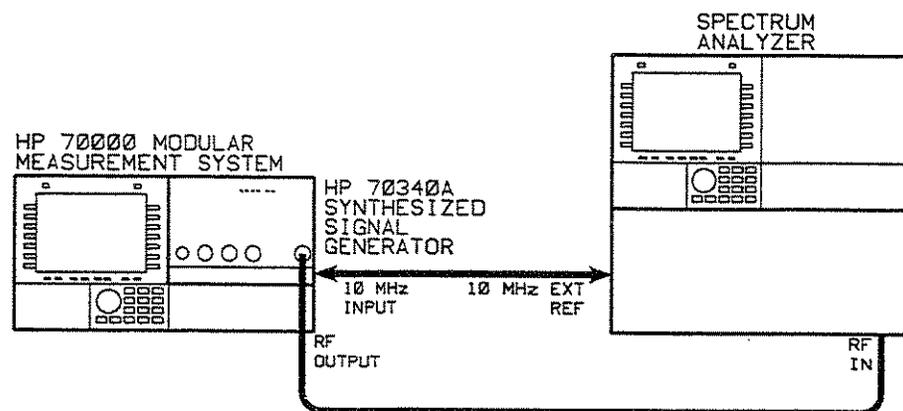

Figure 1-11. Non-Harmonic Spurious Level >30 kHz Test Setup
1. Connect the equipment as shown in Figure 1-11.